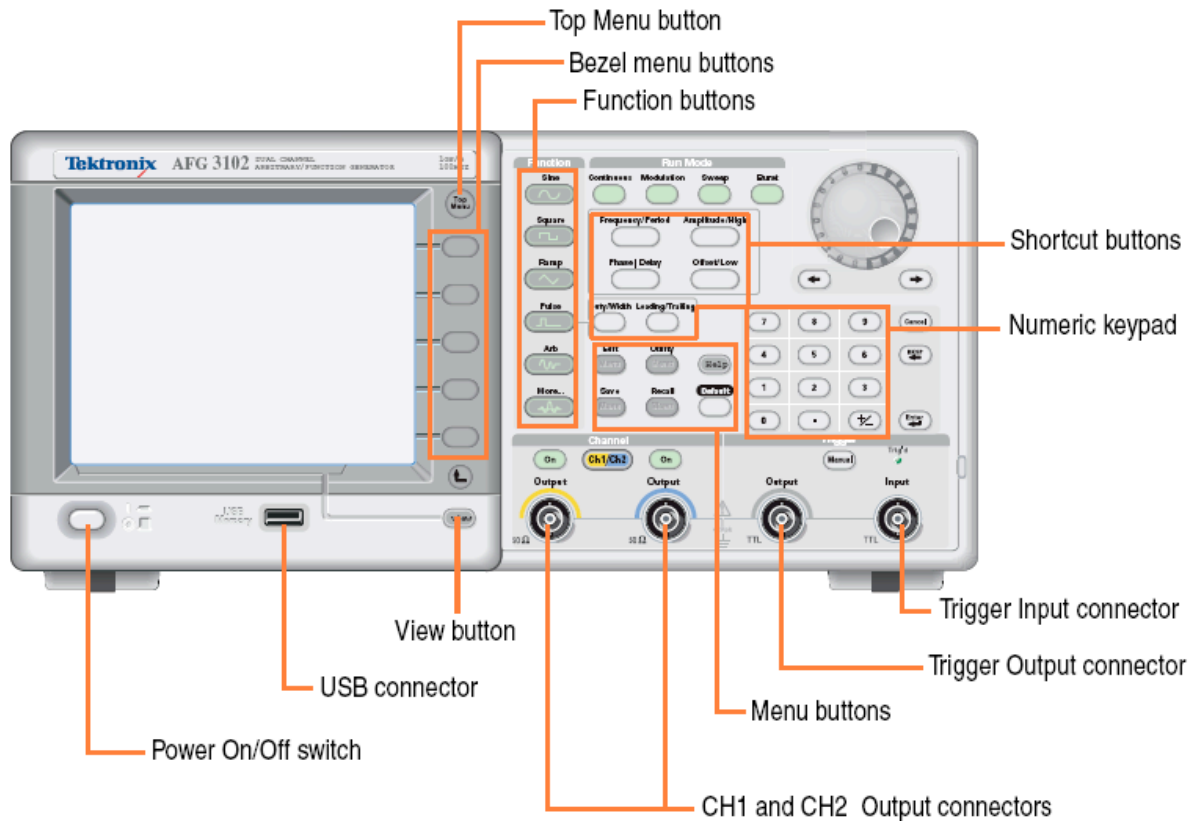

Figure 4. The AFG3000 Series Arbitrary/Function Generator
The AFG3000 Series arbitrary/function generator is used to supply sinusoidal (AC) voltage and current. The controls of the instrument are shown in Figure 4. The function generator has 2 different outputs: Output Channel 1 and Channel 2.